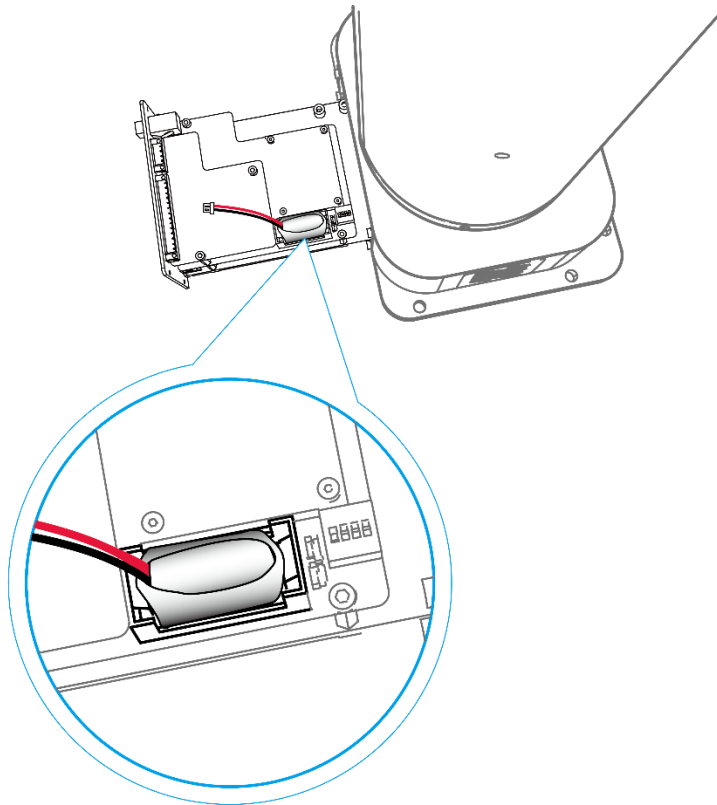
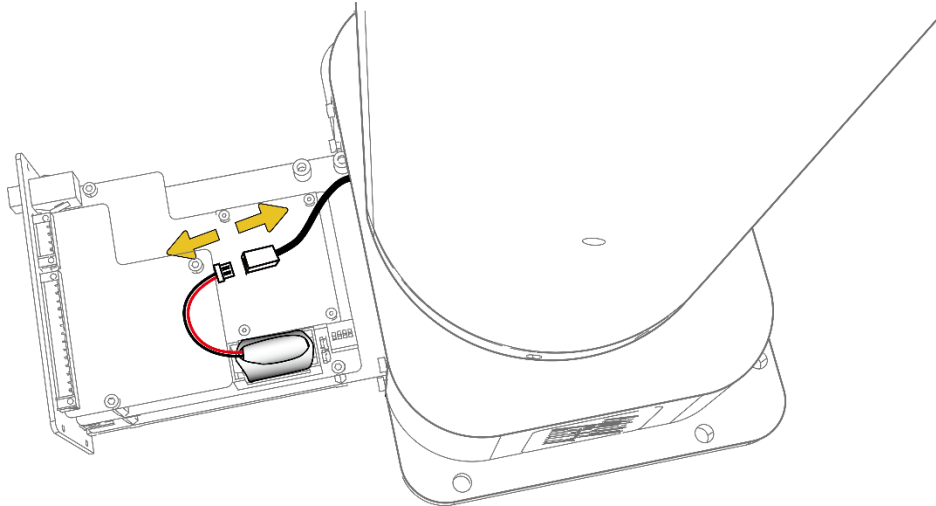

Figure 7.21 Location of the battery holder
Figure 7.22 Disconnect the connector of the battery from the battery adaptor cable
- If a fuse is installed on the battery, please cut off the zip-tie that fixed the original battery, as shown in Figure 7.21. Remove the battery from the battery holder and disconnect the connector of the original battery from the battery adapter cable, as shown in Figure 7.22.